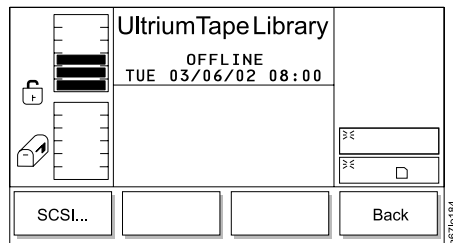

Figure 209. Drives Submenu
3. Press the button below the **Drives** softkey. The Drives Submenu displays (see Figure 209 on page 167).
- To accept the current settings, press the button below the **Cancel** softkey. The Drives Submenu redisplay (see Figure 209 on page 167).
- To change the SCSI ID of the drive, press the button below the **Next** softkey until the selection cursor highlights the value in the New column of the SCSI ID field. Press the button below the **Up** or **Down** softkeys until the SCSI ID that you want displays. Verify that the new settings are correct on the display and that no other drives have the SCSI ID that you specified (ensure that the field Drives with this ID: NONE displays). Press the button below the **Next** softkey, then **OK** softkey to accept the new settings. The library resets the drives with their new IDs and displays the message **Requested command is now complete**. Press the button below the **OK** softkey to return to the Drives Submenu (see Figure 209 on page 167). Wait approximately one minute for the drive to accept the changes.